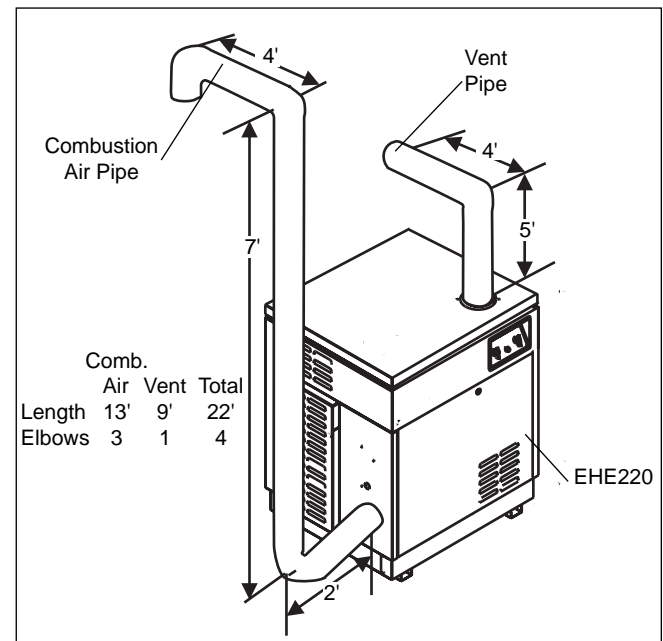

Figure 7. "Two-pipe" installation.
2. A Model 220 heater is to be installed in a two-pipe system (see Figure 7). The combustion air pipe is to be 13 feet long with three elbows and the vent pipe is to be 9 feet long with one elbow. Since the total is 22 feet and four elbows, 4" pipe must be used. (Table 3 indicates that the maximum length of 3" pipe is 11 feet for a system with four elbows.)